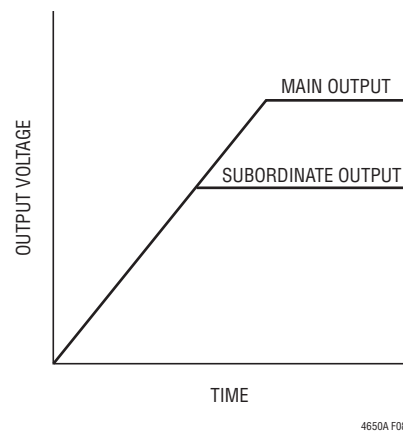

Figure 8. Output Coincident Tracking Waveform
Coincident output tracking can be recognized as a special ratiometric output tracking in which the main's output slew rate (MR) is the same as the subordinate's output slew rate (SR), waveform as shown in Figure 8.